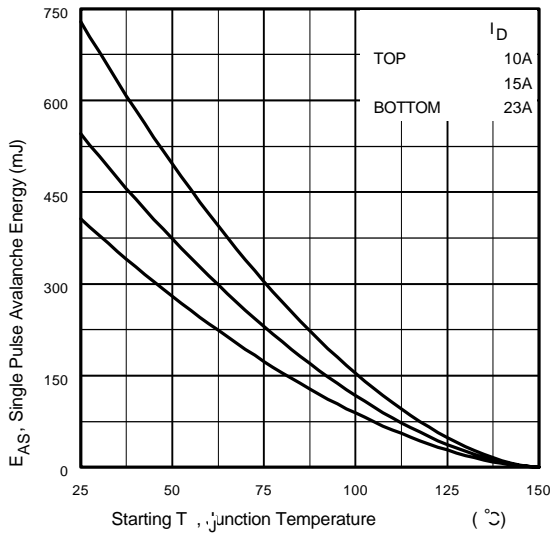

Fig 12a. Maximum Avalanche Energy Vs. Drain Current
- ② Starting $T_J = 25^\circ\text{C}$, $L = 1.5\text{mH}$, $R_G = 25\Omega$, $I_{AS} = 23A$, $dv/dt = 14V/ns$ (See Figure 12a)
- ③ $I_{SD} \leq 23A$, $di/dt \leq 430A/\mu s$, $V_{DD} \leq V_{(BR)DSS}$, $T_J \leq 150^\circ\text{C}$
- ④ Pulse width $\leq 300\mu s$; duty cycle $\leq 2\%$.
- ⑤ $C_{oss \text{ eff.}}$ is a fixed capacitance that gives the same charging time as C_{oss} while V_{DS} is rising from 0 to 80% V_{DSS}